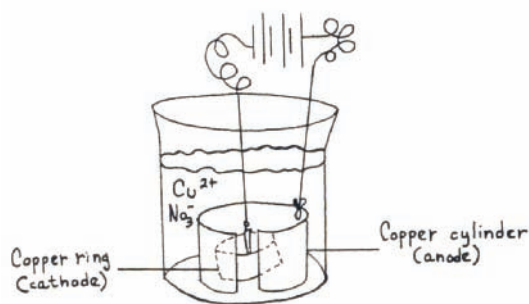

Figure 6.7. Copper Ring Electrolysis
5. Place the copper cylinder and copper ring in the beaker containing the solutions. Be sure that both the cylinder and the bracelet are covered with the solutions. (See Figure 6.7.)